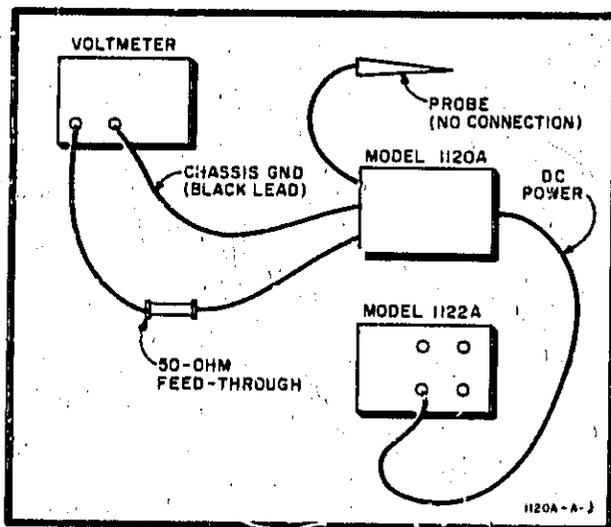

Figure 8. DC Offset Test Setup
24. Connect the equipment as shown in figure 8 for the DC Offset check.